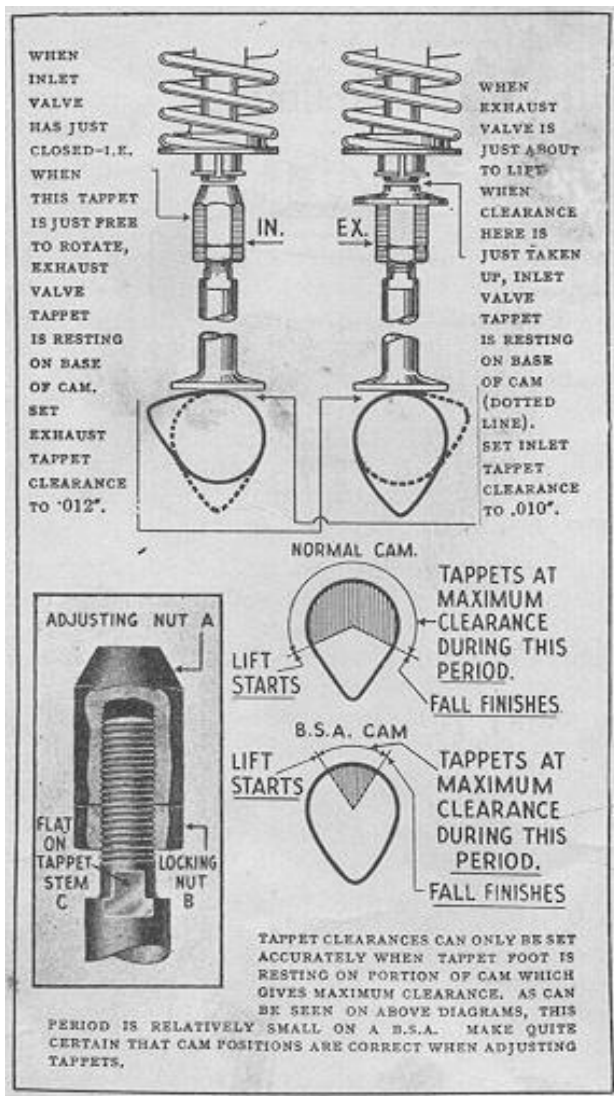

Fig. 8. Instructions for setting tappets
To check and adjust tappet clearances, it is most essential, owing to the special design of the cam form (see Fig. 8), that the following procedure be adhered to.
The actual adjustment is carried out by releasing the locknut (B) (Fig. 8), holding the tappet with a spanner on the flat (C), and screwing the tappet head (A) either up or down. When correct clearance is obtained, the locknut must be tightened against the tappet head. It is advisable, after locking up, to check clearance again, to make sure that the adjustment has not been affected. Tappet adjustment should always be carried out with the engine dead cold, and the clearances recommended above regarded as a minimum, especially in the case of the exhaust valve.